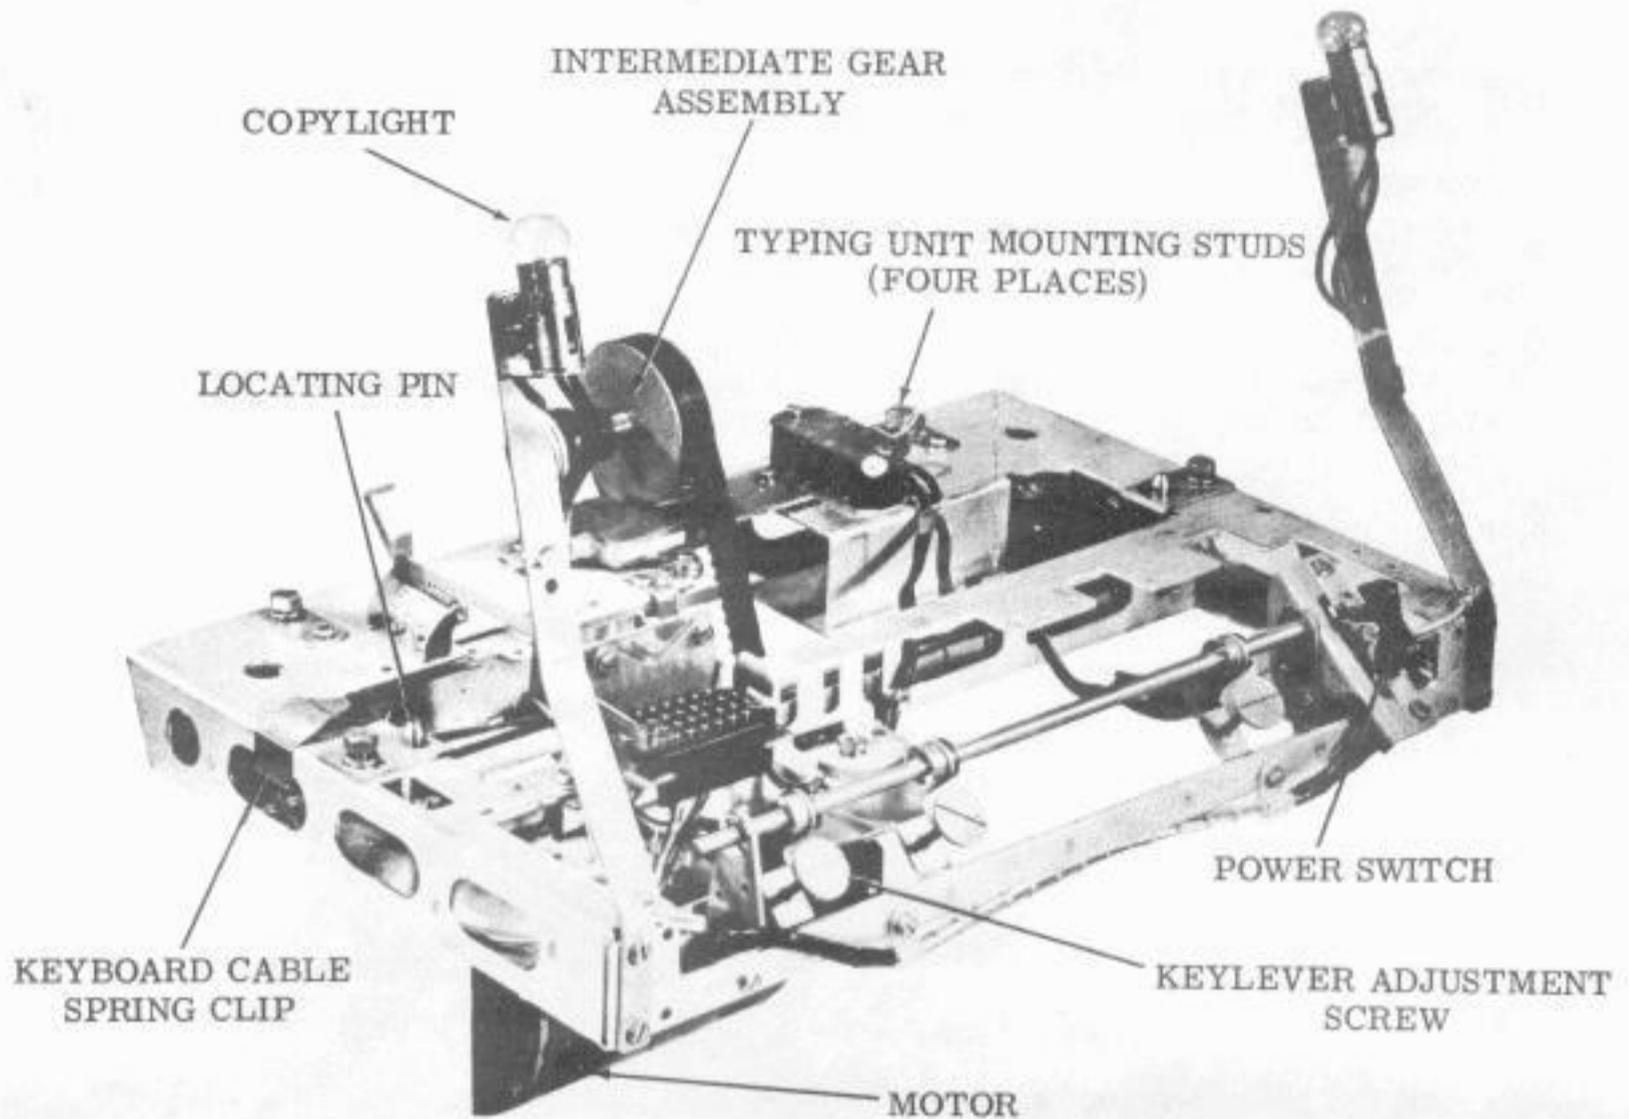

Figure 10 - Wall Mounted Printer Base
2.50 Remove the retainer ring, which is adjacent to the left bearing side, and the 3/8 inch hex nut and associated lockwasher from the right end of the shaft. Slide the shaft to the left and remove the pulley, the two belt retainers, and the belt. Place the rubber isolator over the small end of the intermediate gear. Slide the gear with isolator onto the shaft so that the isolator side is on the left. Replace the two belt retainers, the belt, and the pulley. Slide the shaft to the right, back to its original position, and replace the retainer ring, the 3/8 inch hex nut, and associated lockwasher. Locate the intermediate gear in its correct position and fasten it with the two set screws supplied. See Figure 10.
2.51 Remove and retain the four mounting screws supplied with the base unit. See Figure 10. Place the typing unit on the keyboard (or base) unit and make certain that the front feet of the typing unit are placed over the locating studs provided on the base unit. Rotate the intermediate shaft by hand in order to mesh the gear teeth. Secure the typing unit to the base unit with the four mounting screws.